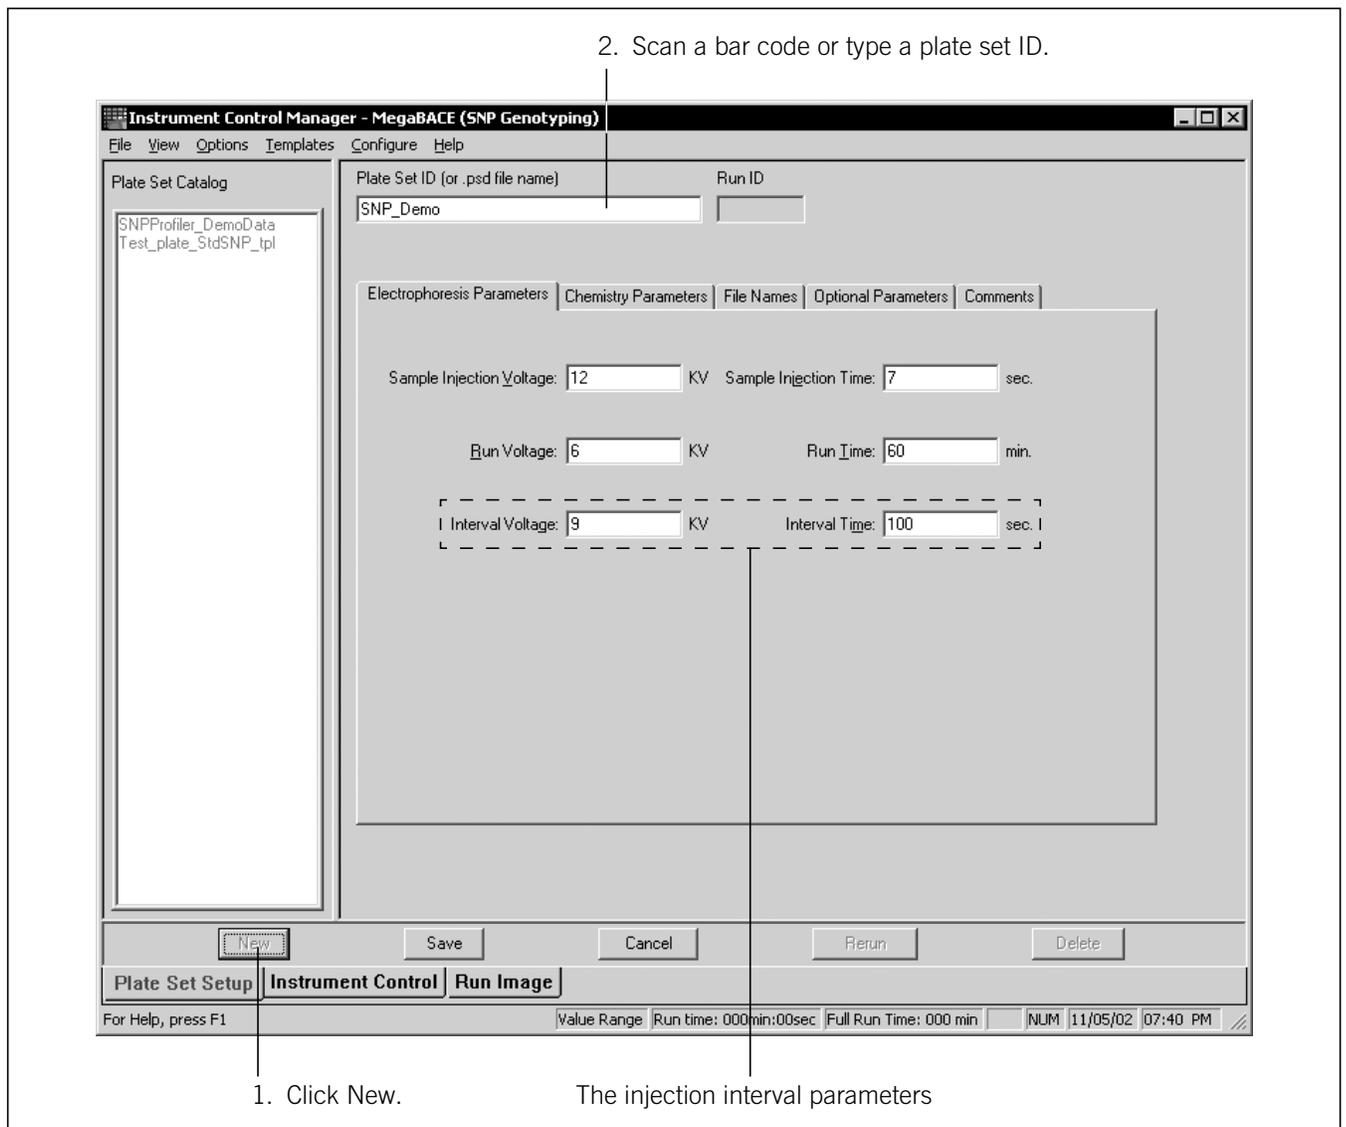

Figure 14-6. The Plate Set Setup window showing electrophoresis parameters for SNP genotyping.
1. In the Plate Set Setup window (figure 14-6), click **New**.
2. Check to see if values appear for the electrophoresis parameters in the Plate Set Setup window (figure 14-6). If values appear, your software has been configured to use a default plate set setup template.
3. In the **Plate Set ID** box of the Plate Set Setup window, type the plate set ID, and click **Save** to save the plate set definition. The plate set ID appears in the Plate Set Catalog (figure 14-6).
2. In the **Plate Set ID** box, type the .psd file name or scan a bar code. The software automatically saves the new plate set definition, and the plate set ID appears in the Plate Set Catalog (figure 14-6).
2. In the Plate Set Setup window (figure 14-6), click **New**.
- In the **Electrophoresis Parameters** tab (figure 14-6), type the electrophoresis parameters.
5. Click **Save** to save the plate set definition. The plate set ID appears in the Plate Set Catalog (figure 14-6).